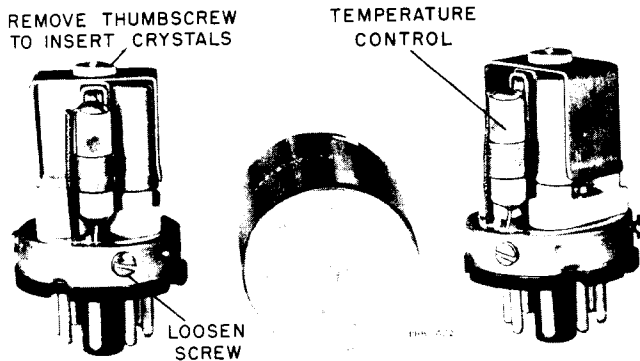

Fig. 39—Installation of Crystals in Oven
3. Remove the thumb screw from the hold-down bracket. See figure 39.